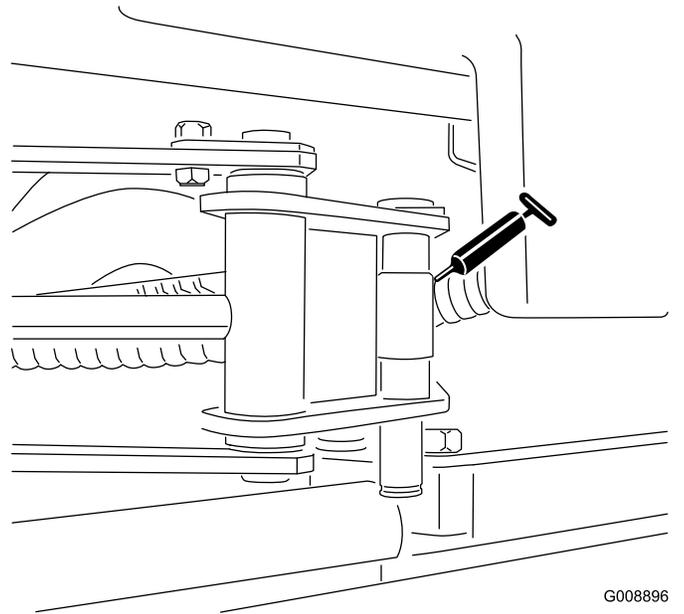

Figure 30
- 2 sidewinder-cylinder ends (Figure 30)